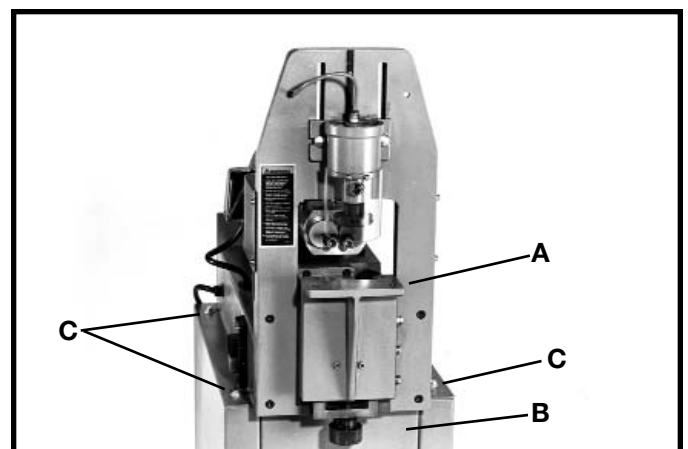

Fig. 5
1. Carefully place machine (A) Fig. 5, on stand (B).
2. Align four holes in the base of the machine (A) Fig. 5, with four threaded holes in top of stand (B) and fasten with 4 one inch-long screws, lockwashers and flat washers, three of which are shown at (C).